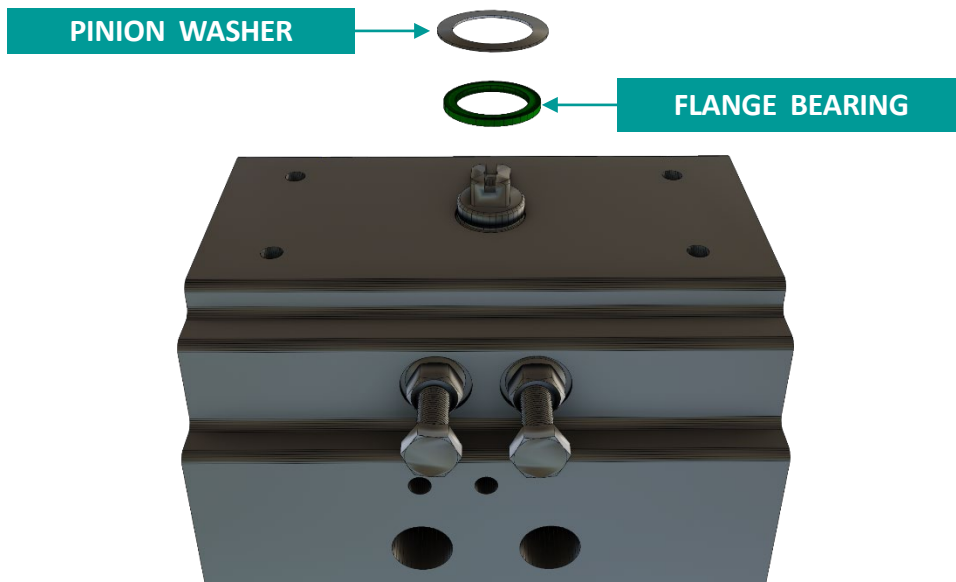

FIGURE 9.6
5. Flange Bearing and Top Pinion Washer: Install the flange bearing and top pinion washer (Figure 9.6) onto the pinion.